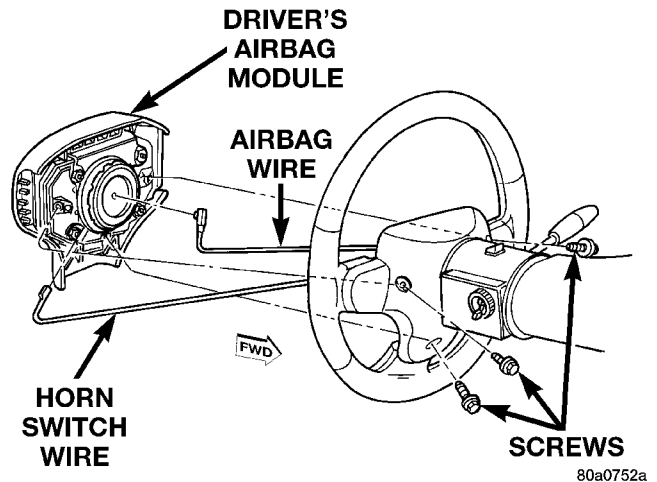

Fig. 5 Driver Side Airbag Module Remove/Install
(1) Disconnect and isolate the battery negative cable. Wait two minutes for the airbag system capacitor to discharge before further service.
(2) From the underside of the steering wheel, remove the three screws that secure the driver side airbag module to the steering wheel (Fig. 5).